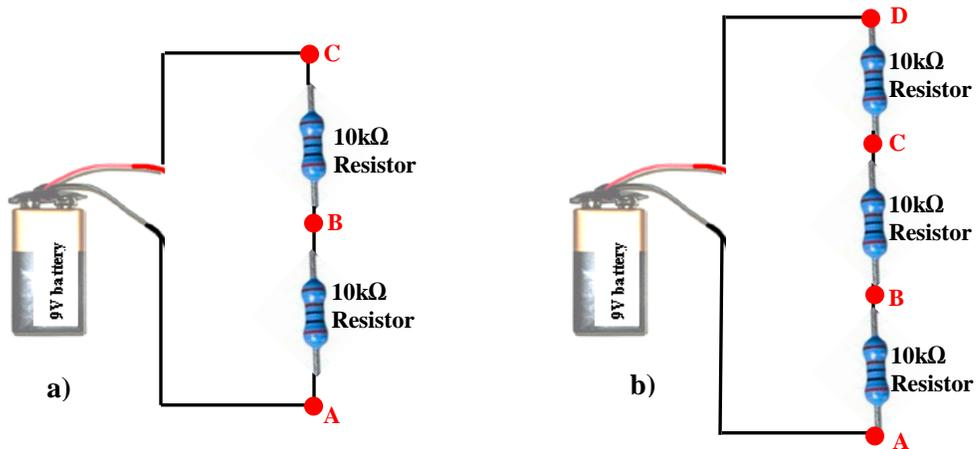

Fig. 3. a) Voltage divider circuit with 2 resistors.
- 2) Combine these with equation 1 from above, to calculate what output voltage, V_{out} , you will expect to measure at different temperatures, for the circuit shown in figure 3. Assume the battery voltage, V_T , is exactly 9Volts.